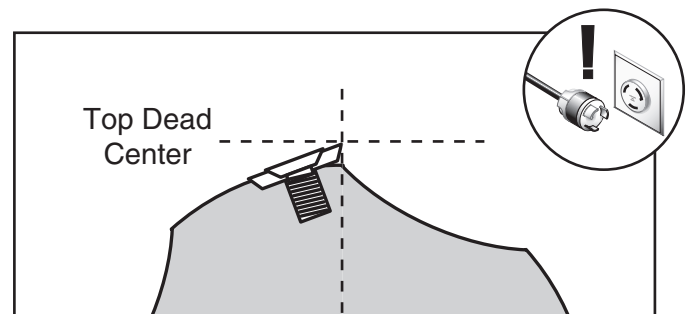

Figure 56. Carbide insert at top-dead-center.
- Open motor access panel and rotate cutterhead pulley until one of carbide inserts is at top-dead-center (TDC), as illustrated in **Figure 56**.